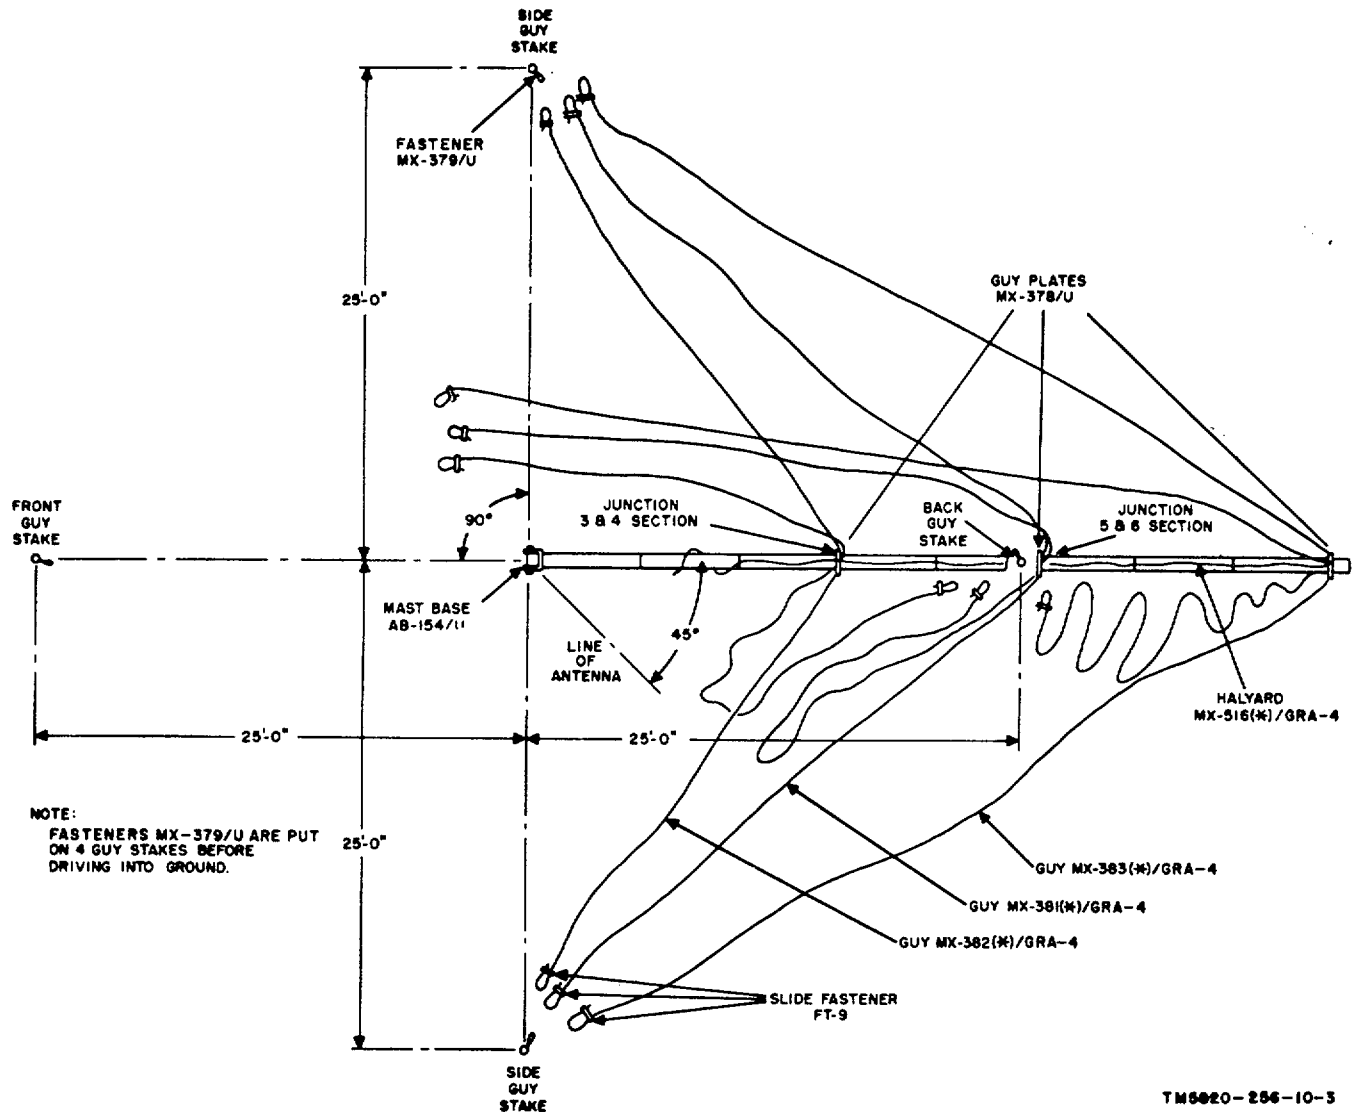

Figure 2-3. Preparing Mast AB-155(*)U for erector
(4) Slip a Guy Fastener MX-379/U over each guy stake before it is driven into the ground. Drive a guy stake (back guy stake) into the ground at the junction of the fifth and sixth MS44-(*) (25 feet from Mast Base AB-154/U). Place the front and side guy stakes 90° apart as shown in figure 2-3. Use a guy rope to measure the distance between the mast base and the front and side guy stakes. If the ground is soft or sandy, use the wooden stakes instead of the aluminum stakes, and loop the guys over the stakes.
(5) Fasten four Guys MX-383(*)/GRA4 to top Guy Plate MX-378/U, four Guys MX381(*)/GRA-4 to center Guy Plate MX-378/U, and the remaining four Guys MX-382(*)/GRA4 to bottom Guy Plate MX-378/U. Fasten the guys by snapping the fastener at the end of each guy into one of the four holes located 900 apart on the MX-378/U. Next, carry the free ends of the three back guys to a side guy stake to measure their correct length. Fasten these guys to the back guy stake with Guy Fastener MX379/U. Connect both sets of side guys to their respective side guy stakes, and remove slack by adjusting Slide Fastener FT-9 (fig. 2-3). Do not overtighten because the mast may bend. Keep the three front guys together, and stretch them along the mast toward the front guy stake.